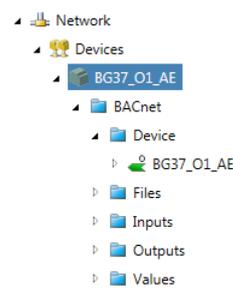

Figure 60: BACnet Objects
4. The new devices are displayed in the navigation view. You have access to all BACnet objects and their properties (see Figure 60).
5. The new device is displayed in the navigation view. If you have uploaded the device configuration or imported a configuration, you now have access to all BACnet objects of the device (see Figure 60).